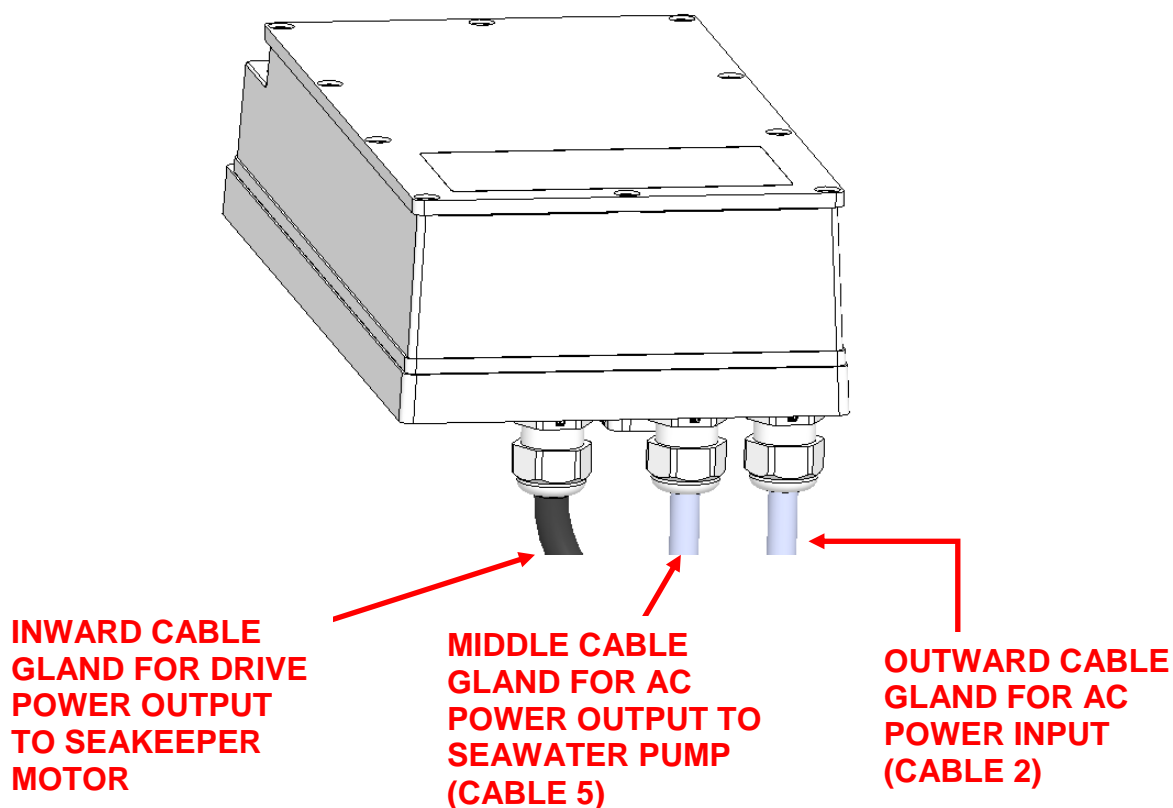

FIGURE 2 – DRIVE BOX AC POWER INPUT & OUTPUT CABLE GLANDS
- i. Locate CABLE 5 for AC power output to the Seawater Pump from the Drive Box at the middle of three cable glands. (See Figure 2.)
- Locate CABLE 5 for AC power output to the Seawater Pump from the Drive Box at the middle of three cable glands as shown in Figure 2.